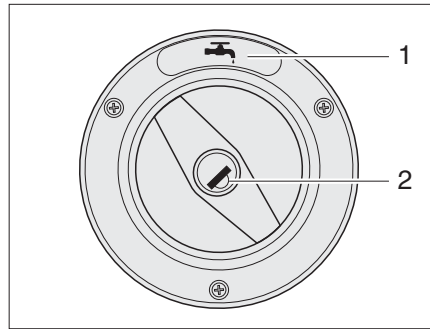
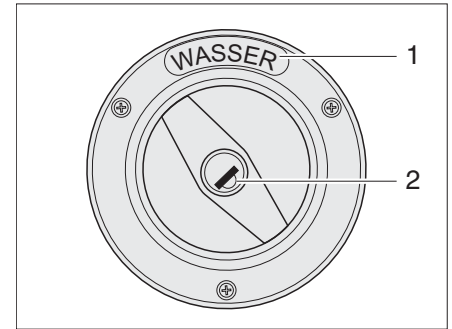

Fig. 6 Cap for the fresh water filler neck (Variant 1)
Fig. 7 Cap for the fresh water filler neck (Variant 2)
- ▷ The fresh water filler neck is identified by the symbol "☰" (Fig. 6,1) or the word "WASSER" ("WATER") (Fig. 7,1).
- Insert the key in the locking cylinder (Fig. 6,2 or Fig. 7,2) and turn it in an anticlockwise direction.